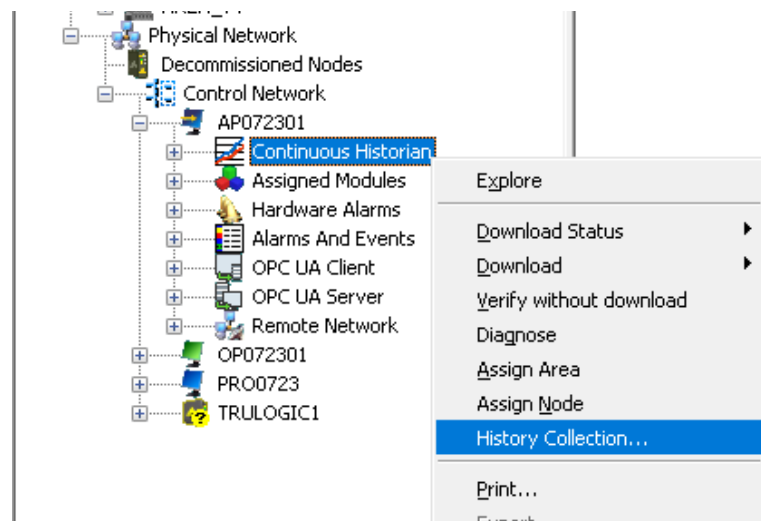

Figure 7.3. Selecting History collection for the Continuous Historian.
4. Click **History Collection** from the list (Figure 7.3).